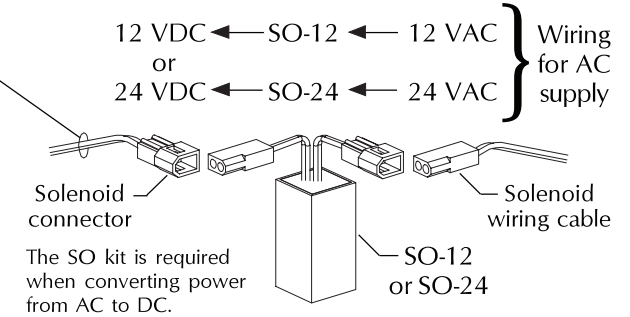

Figure 1
3. Install SO kit when using 12 or 24 VAC power supply (Figure 1). For wood fire door, locate SO kit in frame.